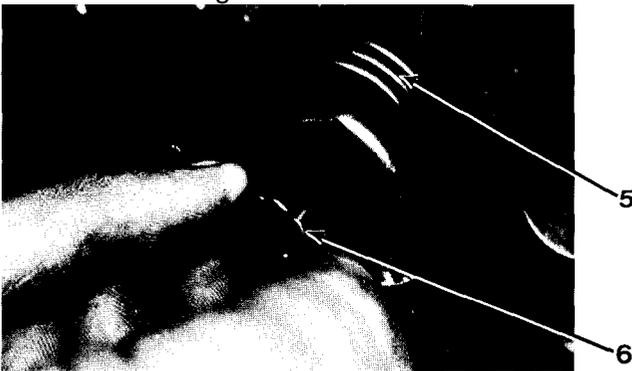

Figure 6-4
2. Compress valve spring (5). Remove valve collets (6, Figure 6-4).